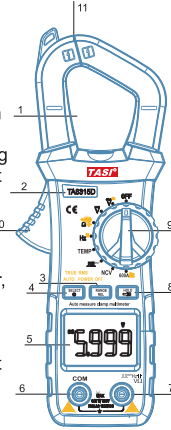

Figure 1
1. Turn the range switch to the corresponding "600A" gear position, trigger the SELECT button to select the DC current automatic measurement (the default value is DC current), and the internal can be switched to the corresponding range according to the measured value (internal auto range 6A/60A/600A). Using a device close to the electromagnetic field may indicate unstable or incorrect readings. Press REL to clear before measuring. As shown in Figure 1, press the handle 10, according to the size of the measuring wire diameter, slowly open the jaw opening, the measured current line vertically through the center of the clamp, the measured current value and the current
1. Turn the range switch to the corresponding "600A" gear position, trigger the SELECT button to select the AC current automatic measurement (the default value is DC current), and the internal can be switched to the corresponding range according to the measured value (internal auto range 6A/60A/600A). As shown in Figure 1, press the handle 10, according to the size of the measuring wire diameter, slowly open the jaw opening, the measured current line vertically through the center of the clamp, the measured current value and the current polarity of the red test pen point will be displayed on the screen at the same time. The clamp can only measure one conductor at a time. If two or more conductors are measured at the same time, the measurement reading will be wrong.